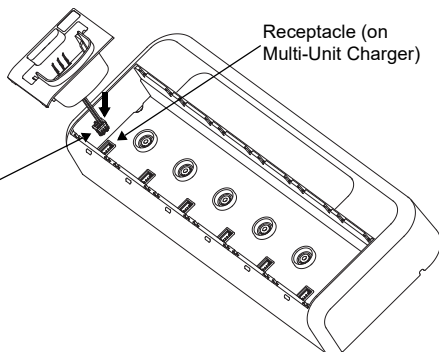

Figure 4
3. Remove the Pocket Harness by pulling straight up on the connector (refer to Figure 4).
1. Connect Pocket Harness by plugging in the connector to the receptacle on Multi-Unit Charger (refer to Figure 4).